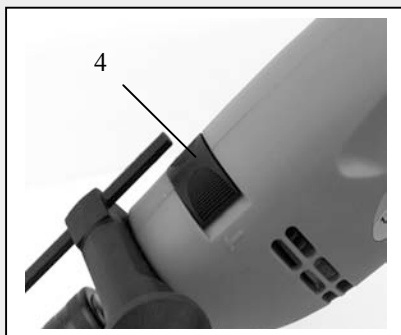

Fig. 4
The drill / impact switch (4) changes the drilling mode between conventional drilling and impact for drilling concrete (Fig. 4). To operate the drill in drill mode, push the drill / impact switch to the right. To operate the drill in impact mode, push the drill / impact switch to the left.